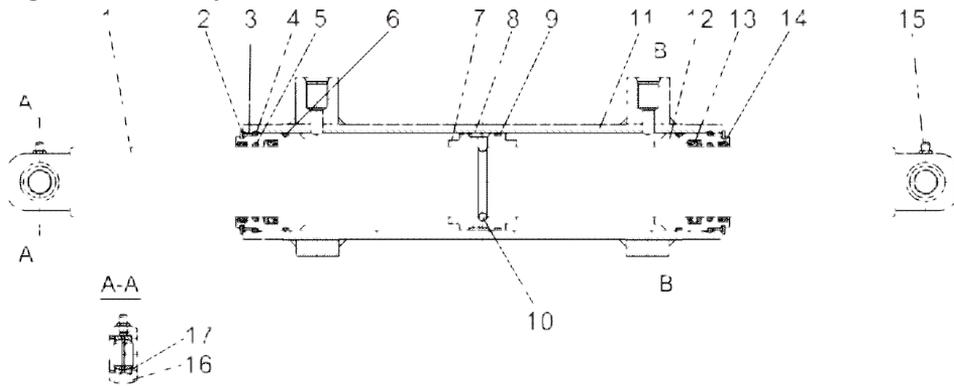

Fig. 6.5 Steering cylinder
6.5.3 Steering cylinder (figure 6.5)